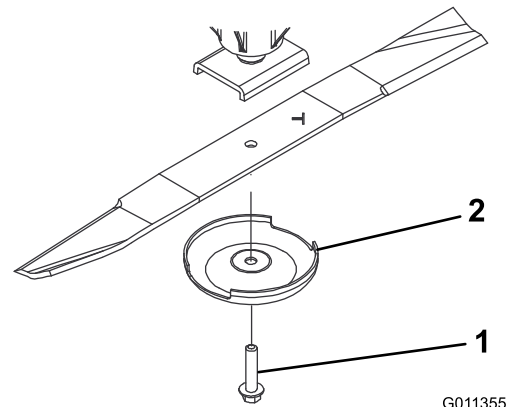

Figure 87
- Remove the blade bolt, anti-scalp cup, and blade from the spindle shaft (Figure 87).